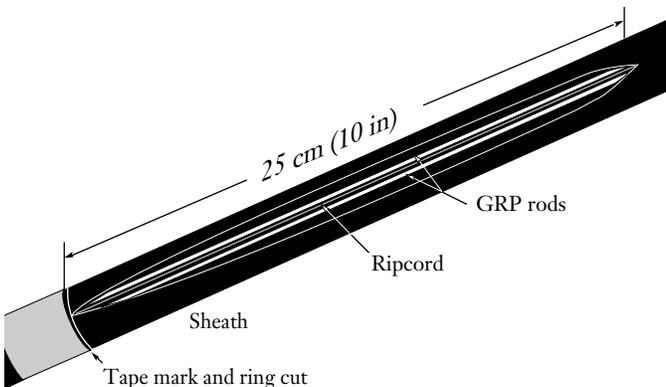

Figure 15
- Shave 25 cm (10 in.) of the outer sheath directly over the GRP rods (Figure 15).